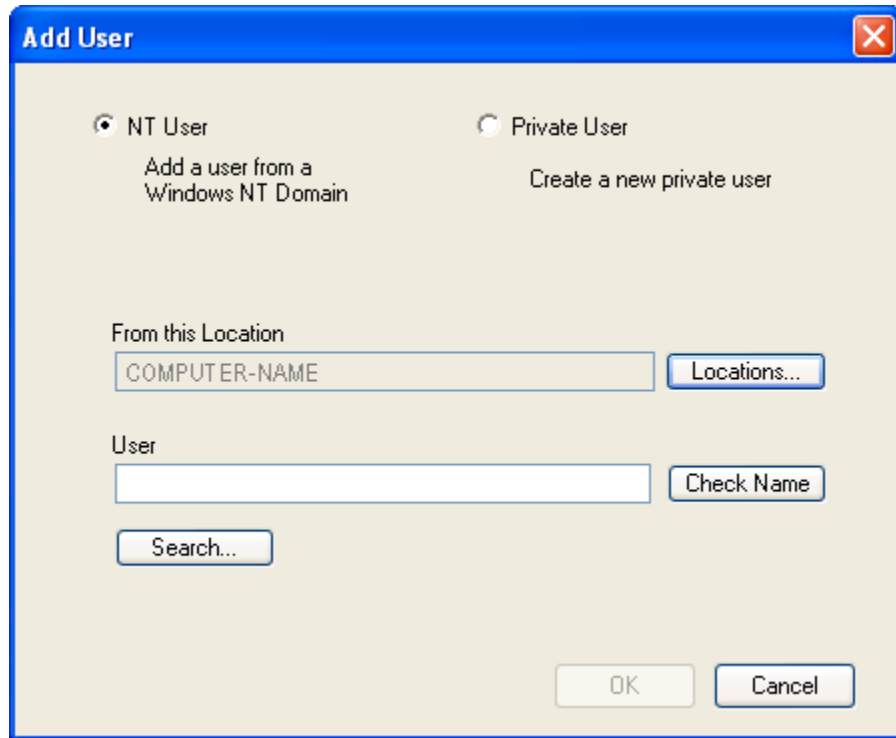

Figure 70 - Add User Window (NT)
2. The **Add User** window (Figure 70) appears. The **NT User** option button is selected by default. This will allow the addition of a user from a Windows NT Domain.
2. The **Add User** window (Figure 70) appears.